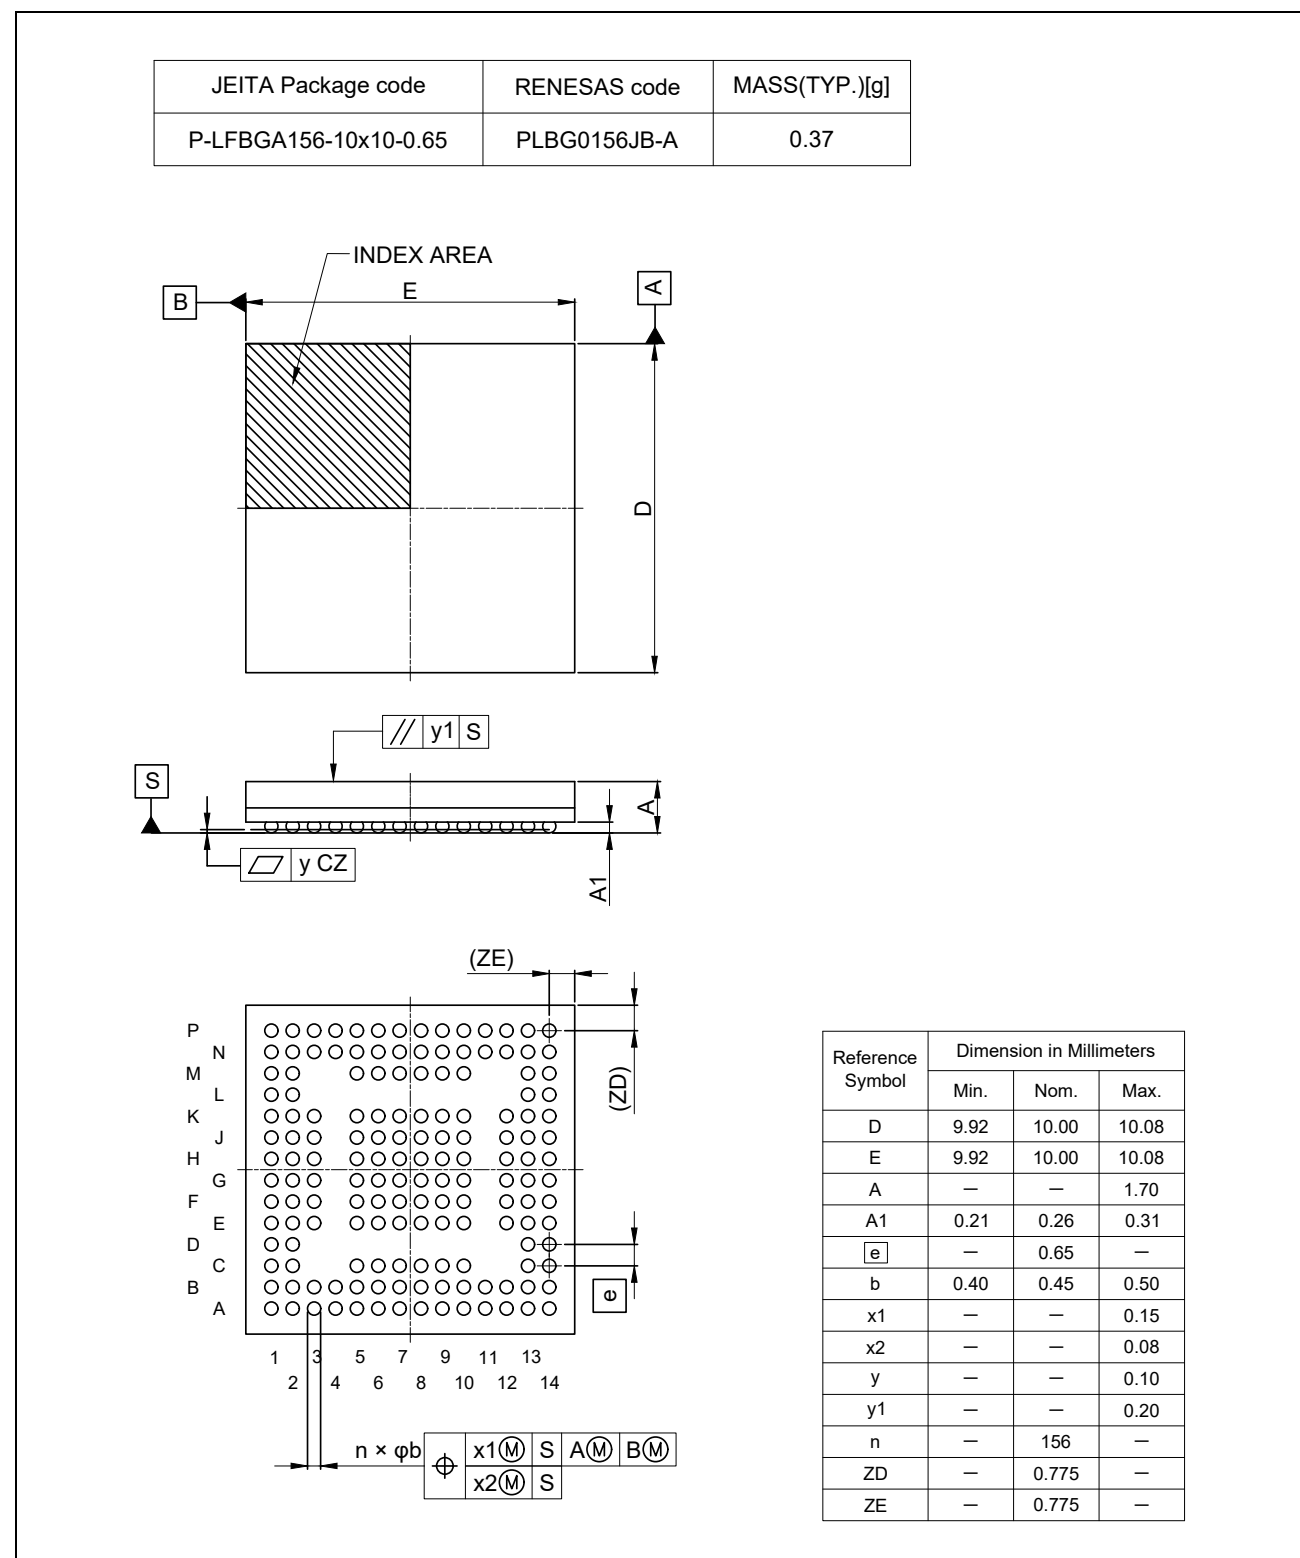

Figure 4.3 FBGA (156pin) outline
- **Figure 4.3** shows FBGA (156pin) outline.